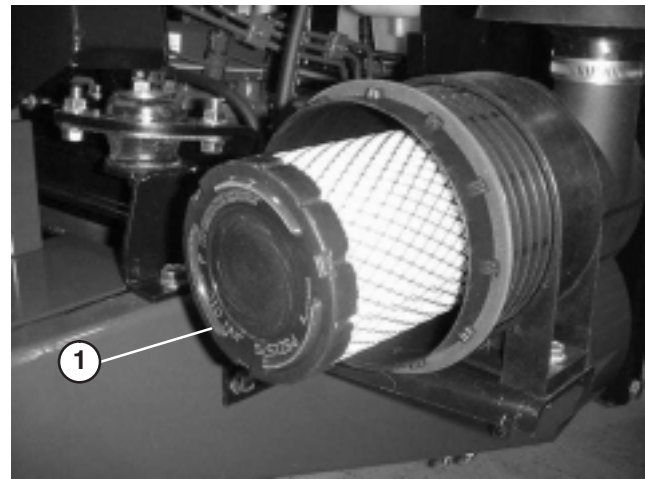

Figure 42
2. Gently slide primary filter (Fig. 42) out of air cleaner body to reduce the amount of dust dislodged. Avoid knocking filter against air cleaner body.